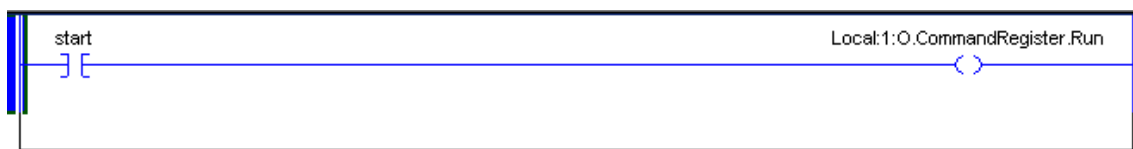

Fig. 5.10 I/O Run Program
- 13) In the OMRON PLC, I/O data is connected for a real-time exchange upon registering DeviceNet modules on the Scanlist using Configuration tool. But, the AB PLC allows you to exchange I/O data only by enabling CommandRegister.Run bit in Fig. 5.10 though registered on Scanlist.